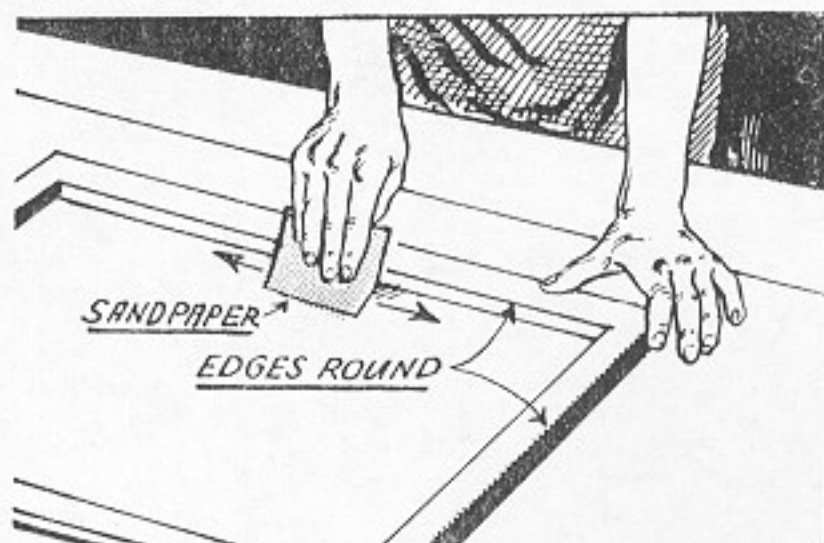

Fig. 28. Sand the Edges
4. Sand the front and rear edges of the frame so that they are smooth and slightly rounded, Fig. 28. This will keep the frame from tearing the silk fabric.